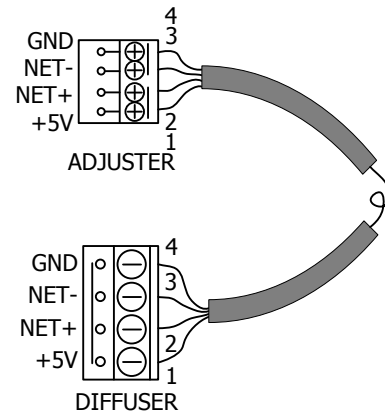

Fig. 6 – Connector Wiring
5. If either of the connectors were removed to pull the cable then reconnect them as shown in Fig. 6.
4. Check the incoming power at the Adjuster across terminals 1 & 4 (Fig. 6). Power should be 5VDC \pm 0.5VDC.
5. Check communication power at the Adjuster across terminals 2 & 4 and across 3 & 4 (Fig. 6). Communication power should be 2VDC \pm 0.2VDC